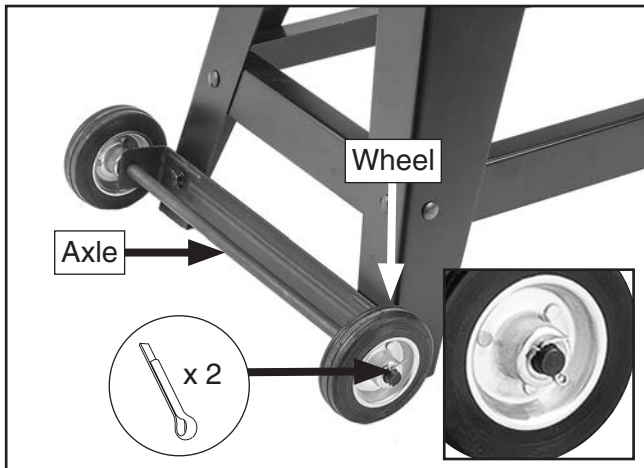

Figure 14. Wheels attached to axle.
- Slide wheel axle through holes in wheel-mounting bracket (see **Figure 14**).
- Slide wheels onto axle on outside of mounting brackets, and secure with (2) cotter pins (see **Figure 14**).